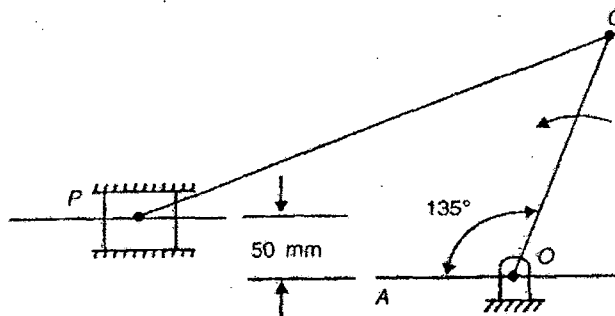

Fig Q 11(a)
11. In the slider mechanism shown in Fig Q 11 a . , the line of stroke of slider P is offset by a distance 50 mm from the centre O. The links OC and CP are 200 mm and 750 mm long respectively . The crank-OA rotating clockwise at a uniform speed of 200 rpm. When the angle AOC is 135° Determine 1 acceleration of the slider 2 angular acceleration of the link CP.